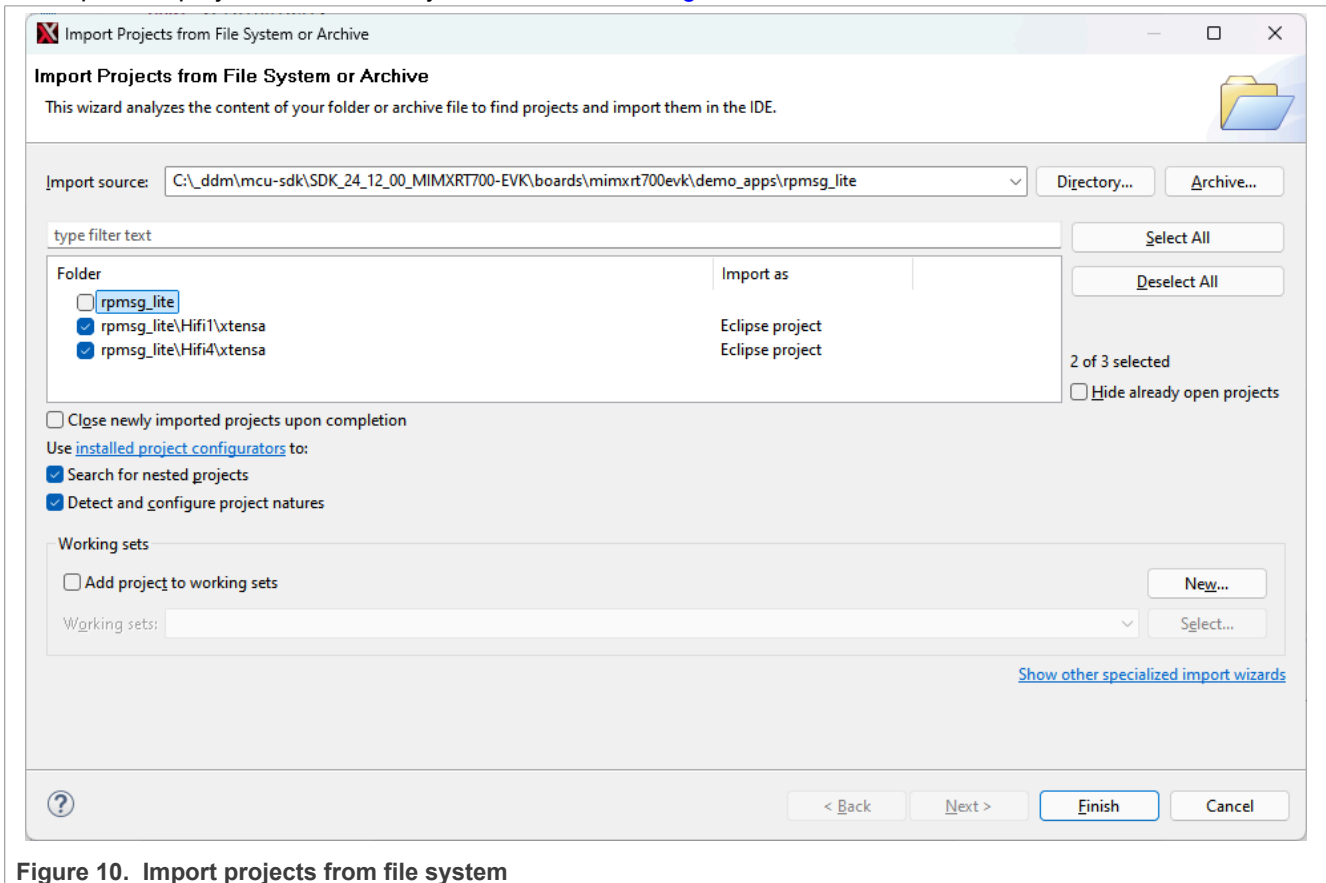

Figure 10. Import projects from file system
3. Import the project from the file system, as shown in Figure 10.